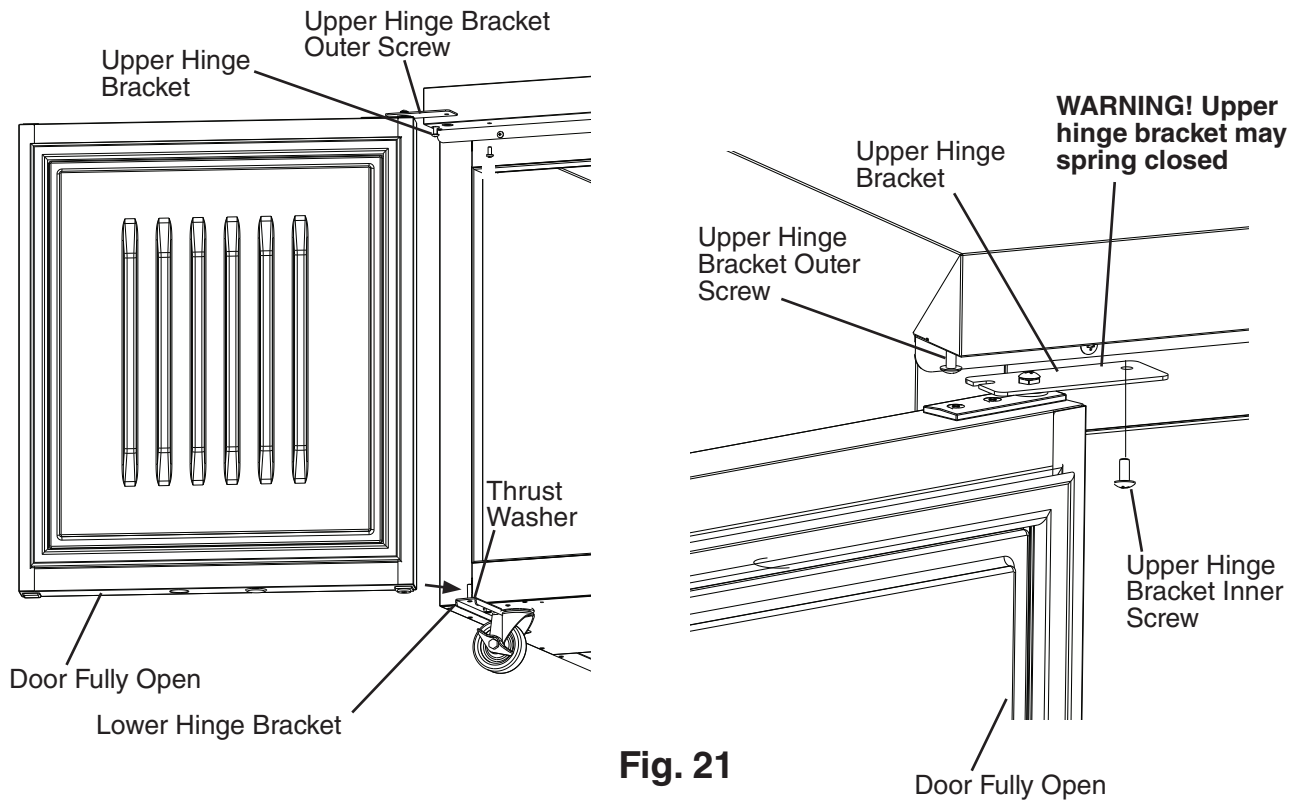

Fig. 21
- 14) Be sure the lower hinge bracket thrust washer is in place, then place the door on the lower hinge bracket in the fully open position. Slide the door upper hinge bracket outer slot onto the upper hinge bracket outer screw. See Fig. 21.